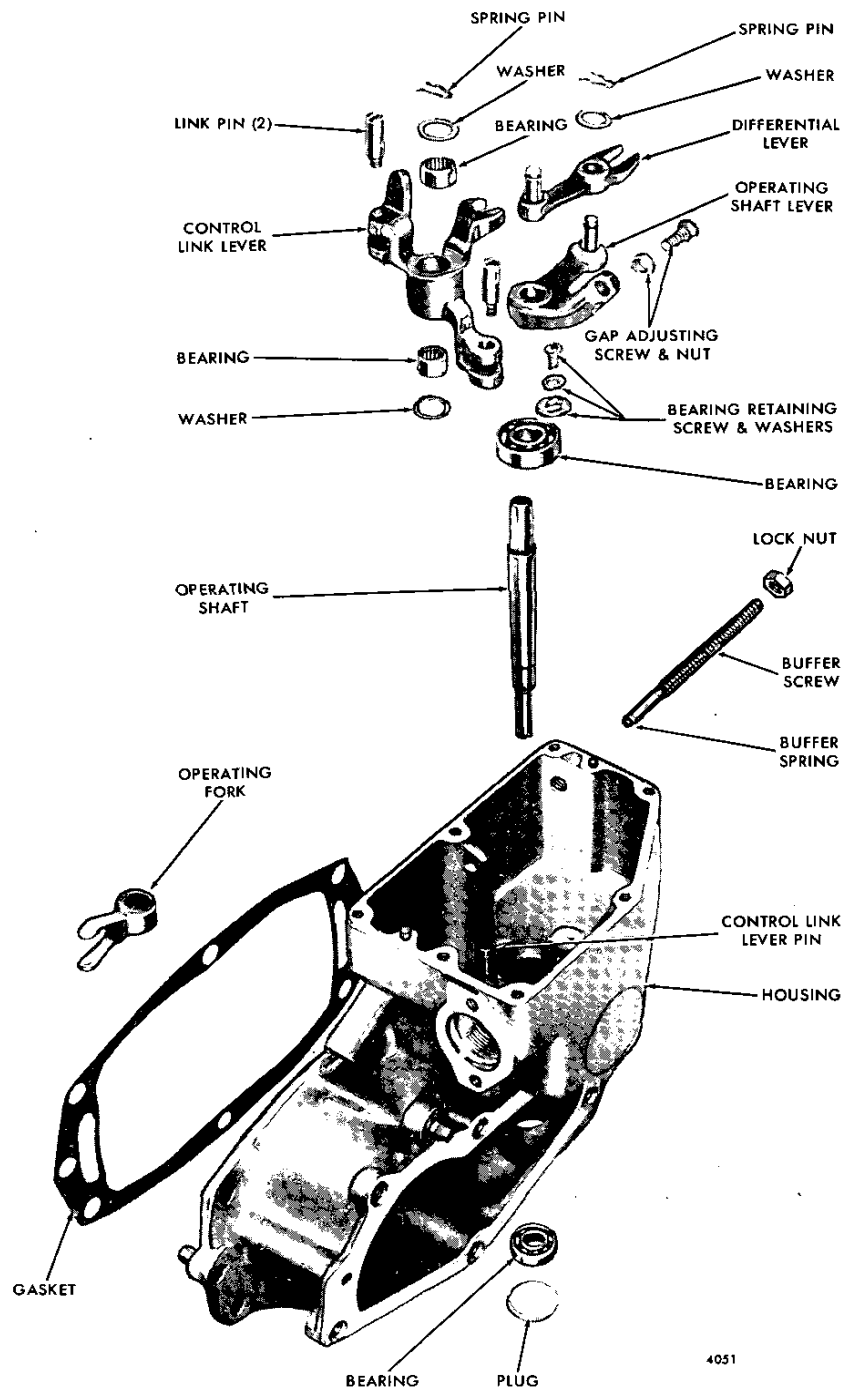

Fig. 7 - Governor Housing Details and Relative Location of Parts
2. Remove the spring pin and washer from the control link lever pin (Fig. 7) and withdraw the control link lever and washer.